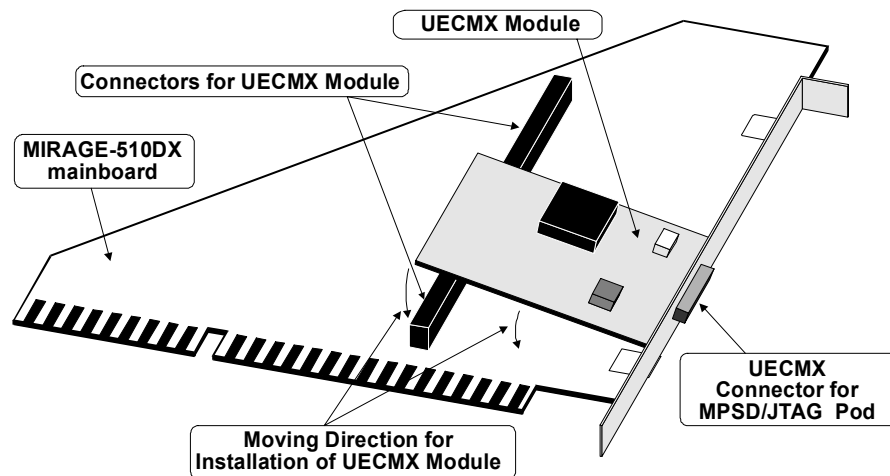

Fig.3-1. Installation of *UECMX* module onto *MIRAGE-510DX* mainboard.
*UECMX* module installs into either of two on-board connector sites (channels 'A' and 'B') onto *MIRAGE-510DX* mainboard (see fig.2-2). One or two *UECMX* modules can be installed onto *MIRAGE-510DX* mainboard. Figure 3-1 demonstrates installation of *UECMX* module onto *MIRAGE-510DX* mainboard.